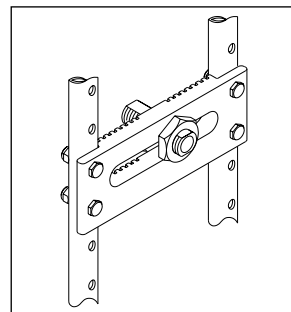

Figure 20
- Loosen the nuts and reposition the axle sleeve (A) to the desired width.
4. Seat Height Adjustment (Fig. 20)